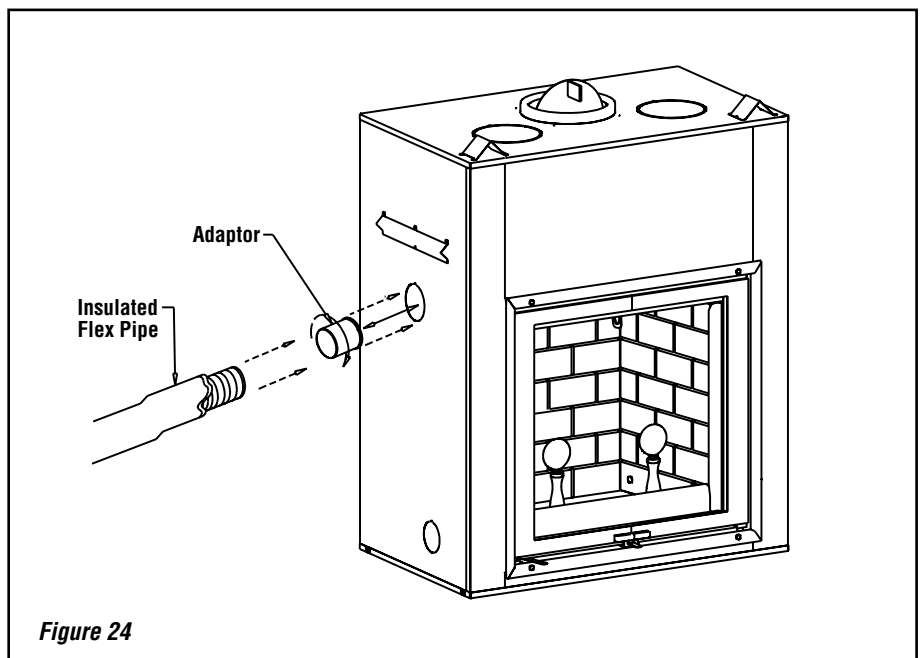

Figure 24
- A) Fix the adaptor at the back and/or the side of the fireplace by twist-locking the adaptor to the fireplace. You can use more than one outlet on the fireplace (see **Figure 24**).